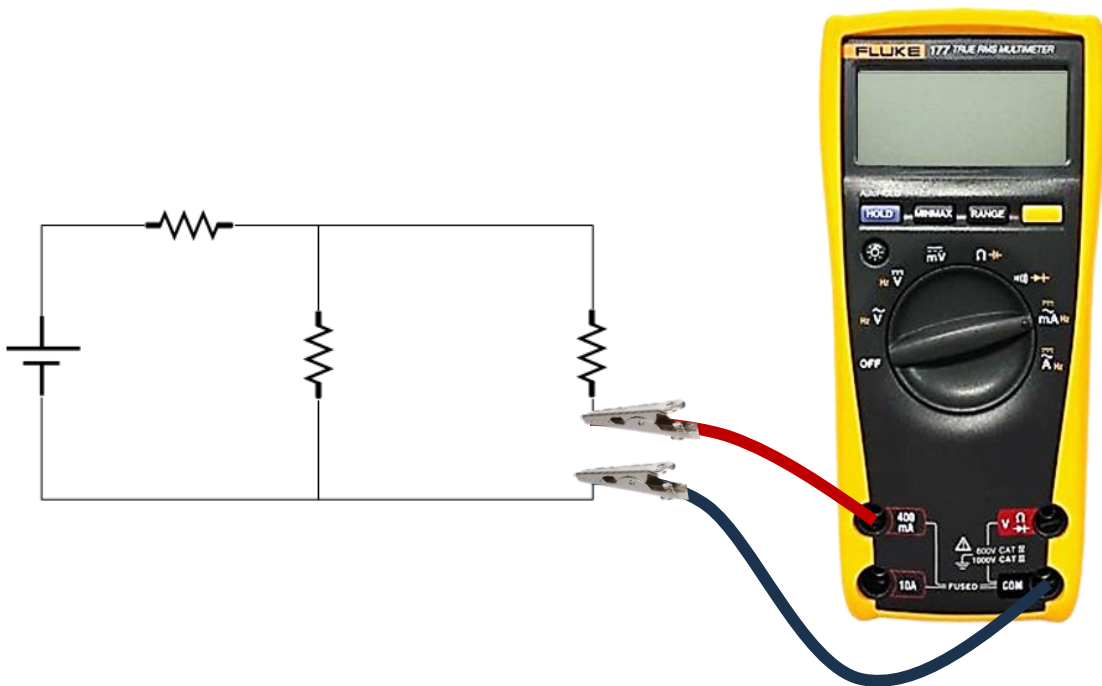

Fig. 6
- c) **Connect** the probes of the multimeter **in series to the resistor**, (**Fig. 6**).